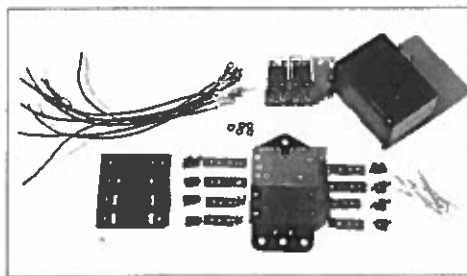

Figure 1: All the parts ready for assembly.
3. There are three insulators, one on the bottom side, and two on the top side. Also there are six insulating washers (small) that are in the metal baseplate between the insulators. (One of my insulators was broken, so I fabricated a new piece—the light colored material in Figure 1.) Save these pieces as they will be reused.
4. The four contact pieces (where the wires from the loom attach) that are designated 1, 2, 5, and 6 are cut off so they are flush with the top insulator when assembled. The insulator acts as a locator for these pieces so they don't short to the baseplate. The four straight contact pieces that go to 3, 4, 7, and 8 have locating pins that interface with the bottom insulator. The pins are inboard on 3 and 7 and outboard on 4 and 8. See the parts ready for assembly in Figure 1.
7. I prewired the terminals as shown in Figure 1. I also removed the terminal insulation, as it was difficult to get a clean shot with the rivet, as the insulator wanted to cock the terminal.